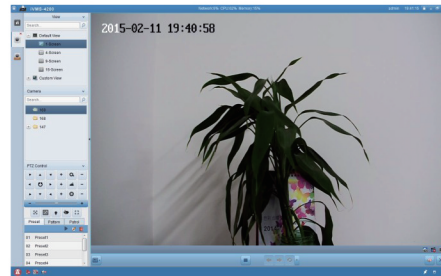

Figure 4 Preview Interface
Step 4 : Click main preview, you can see the main preview interface, choose the default view you need on the left (Figure 4).